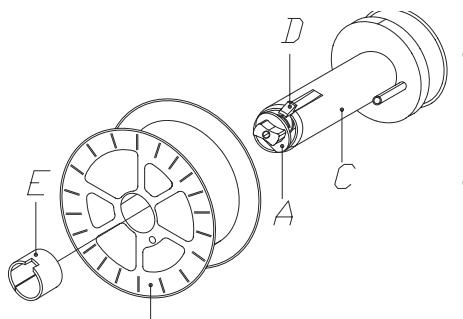

FIG. 7
- SPOOL HOLDER AS FIG. 7 - 7A
Open the side panel. Loosen the nut (A) of the spool holder (position 1) (brake drum). Remove the spacer (E, if present). In the case you are replacing the wire spool, extract it by pushing the snap tongue (D) (Fig 7).
- Remove the plastic protection from the spool. Place it on the spool holder. Mount the spacers again (E/F, only for 5kg spools; the smaller spacer E must be mounted between the spool and the spool holder). Then tighten the lock nut (A) turning it to position 2. (Fig. 7).